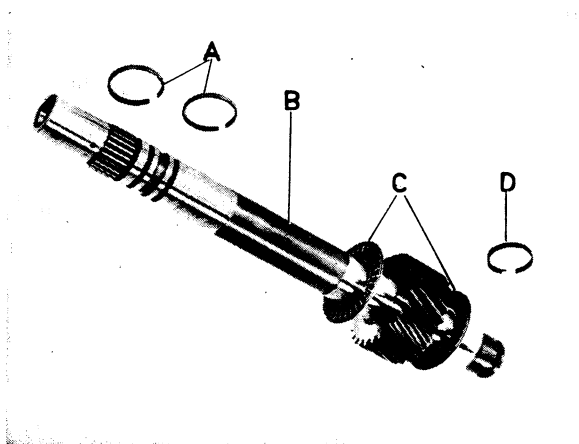

Fig. 4-101. Forward sun gear components
15. Place the front needle thrust bearing on the rear sun gear shaft. Fit the shaft in the rear clutch assembly. Install the oil sealing rings, see Fig. 4-101.